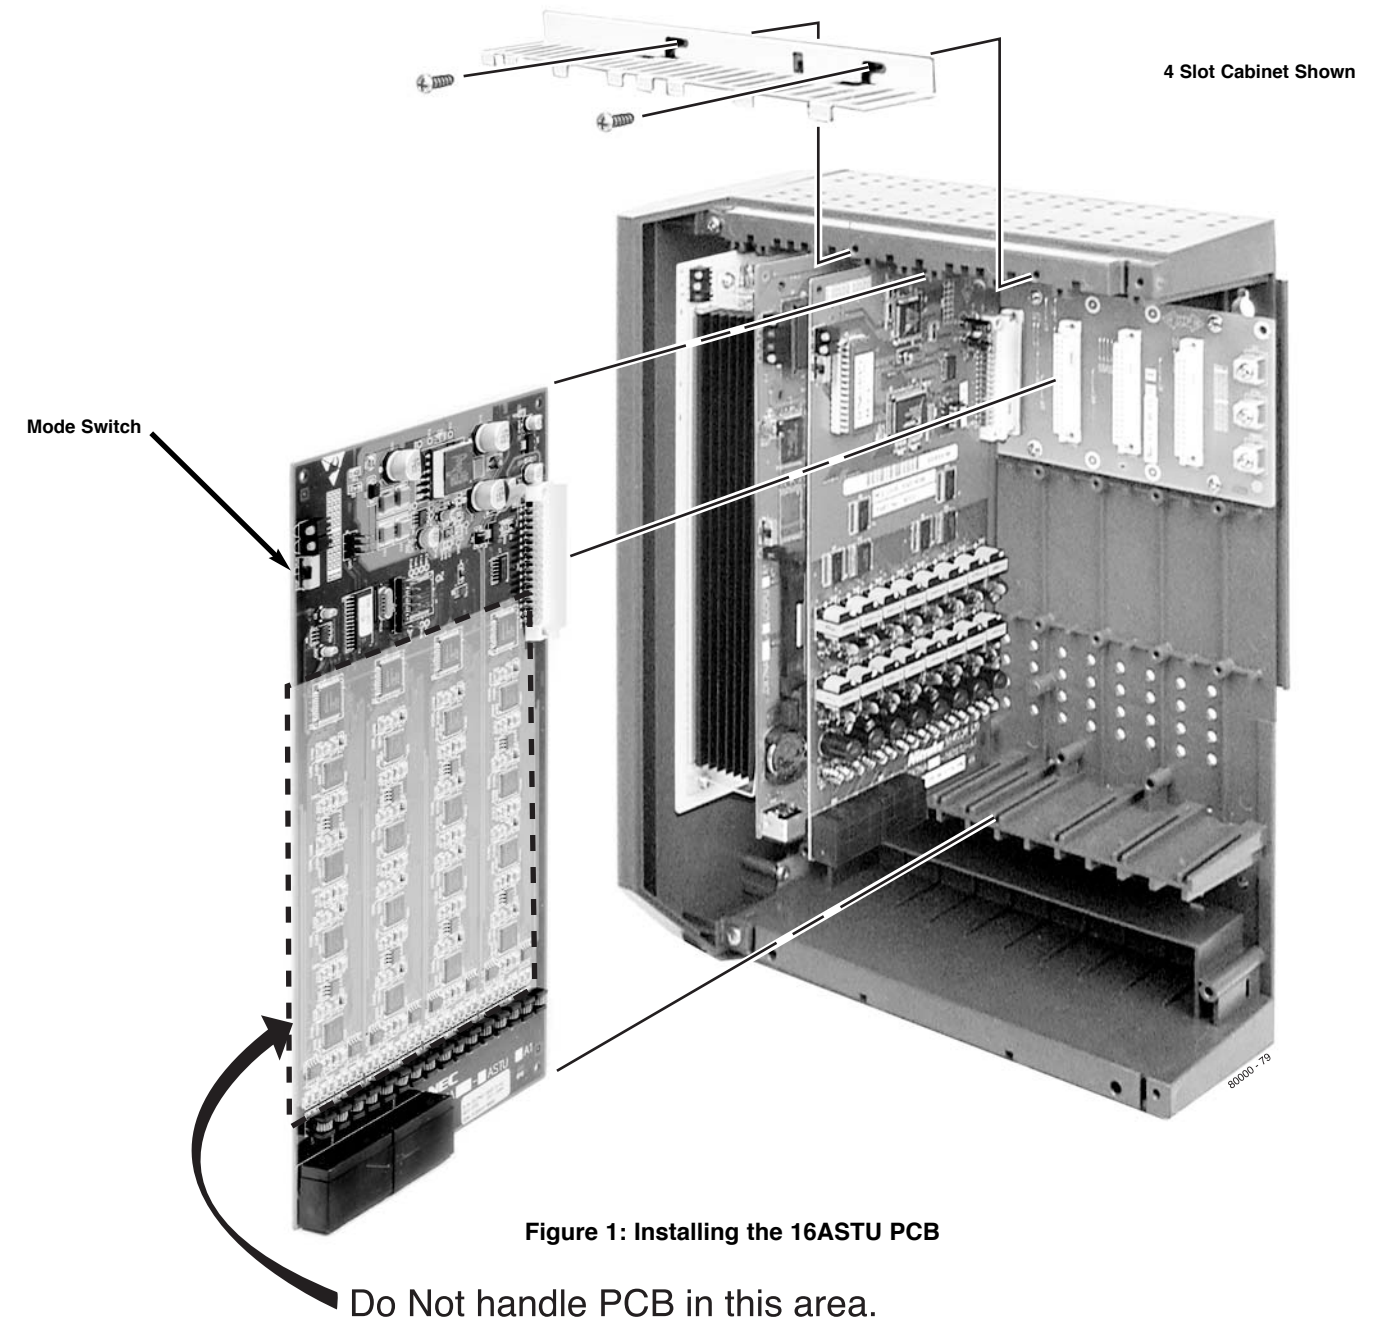

Figure 1: Installing the 16ASTU PCB
2. Plug the 16ASTU PCB into any available slot from **CN2-CN8**. See Figure 1 below.